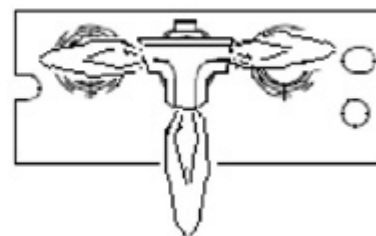
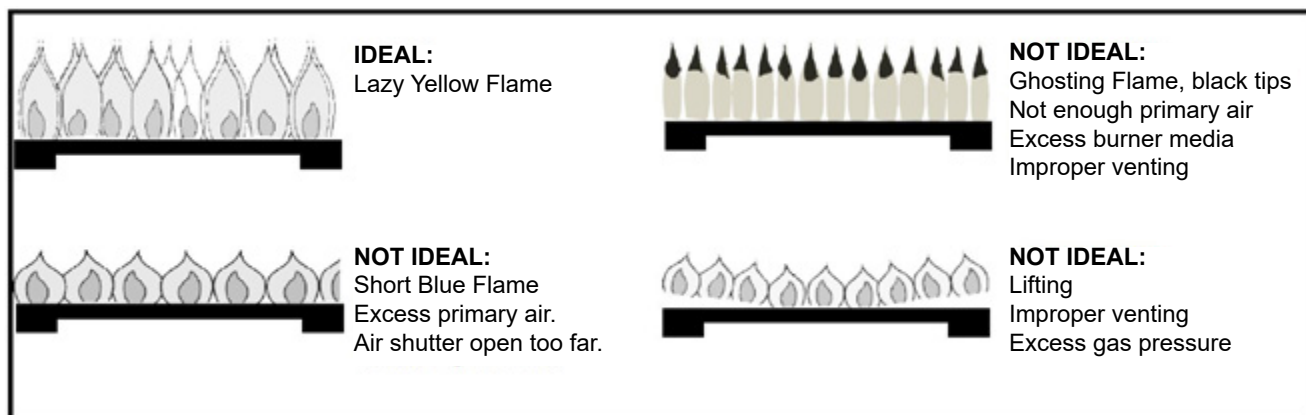

Figure 20.4.01
Figure 20.5.01:
- Inspect and ensure the lighting of the main burner occurs within 4 seconds of the main gas valve opening. Flames should match those shown in **Figure 20.4.01** and **Figure 20.5.01**
**NOTE:** Figure 20.5.01 shows examples of what a correct or incorrect flame pattern looks like. It is not a true representation of what the 27-DVIE22N-2 will look like in your home environment. The air shutter can be adjusted from the front of the unit while in operation. All adjustments should be made after 20 minutes of operation.